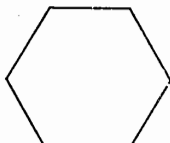

Fig. 48
41. A *Hexagon* has six sides. Fig. 48.